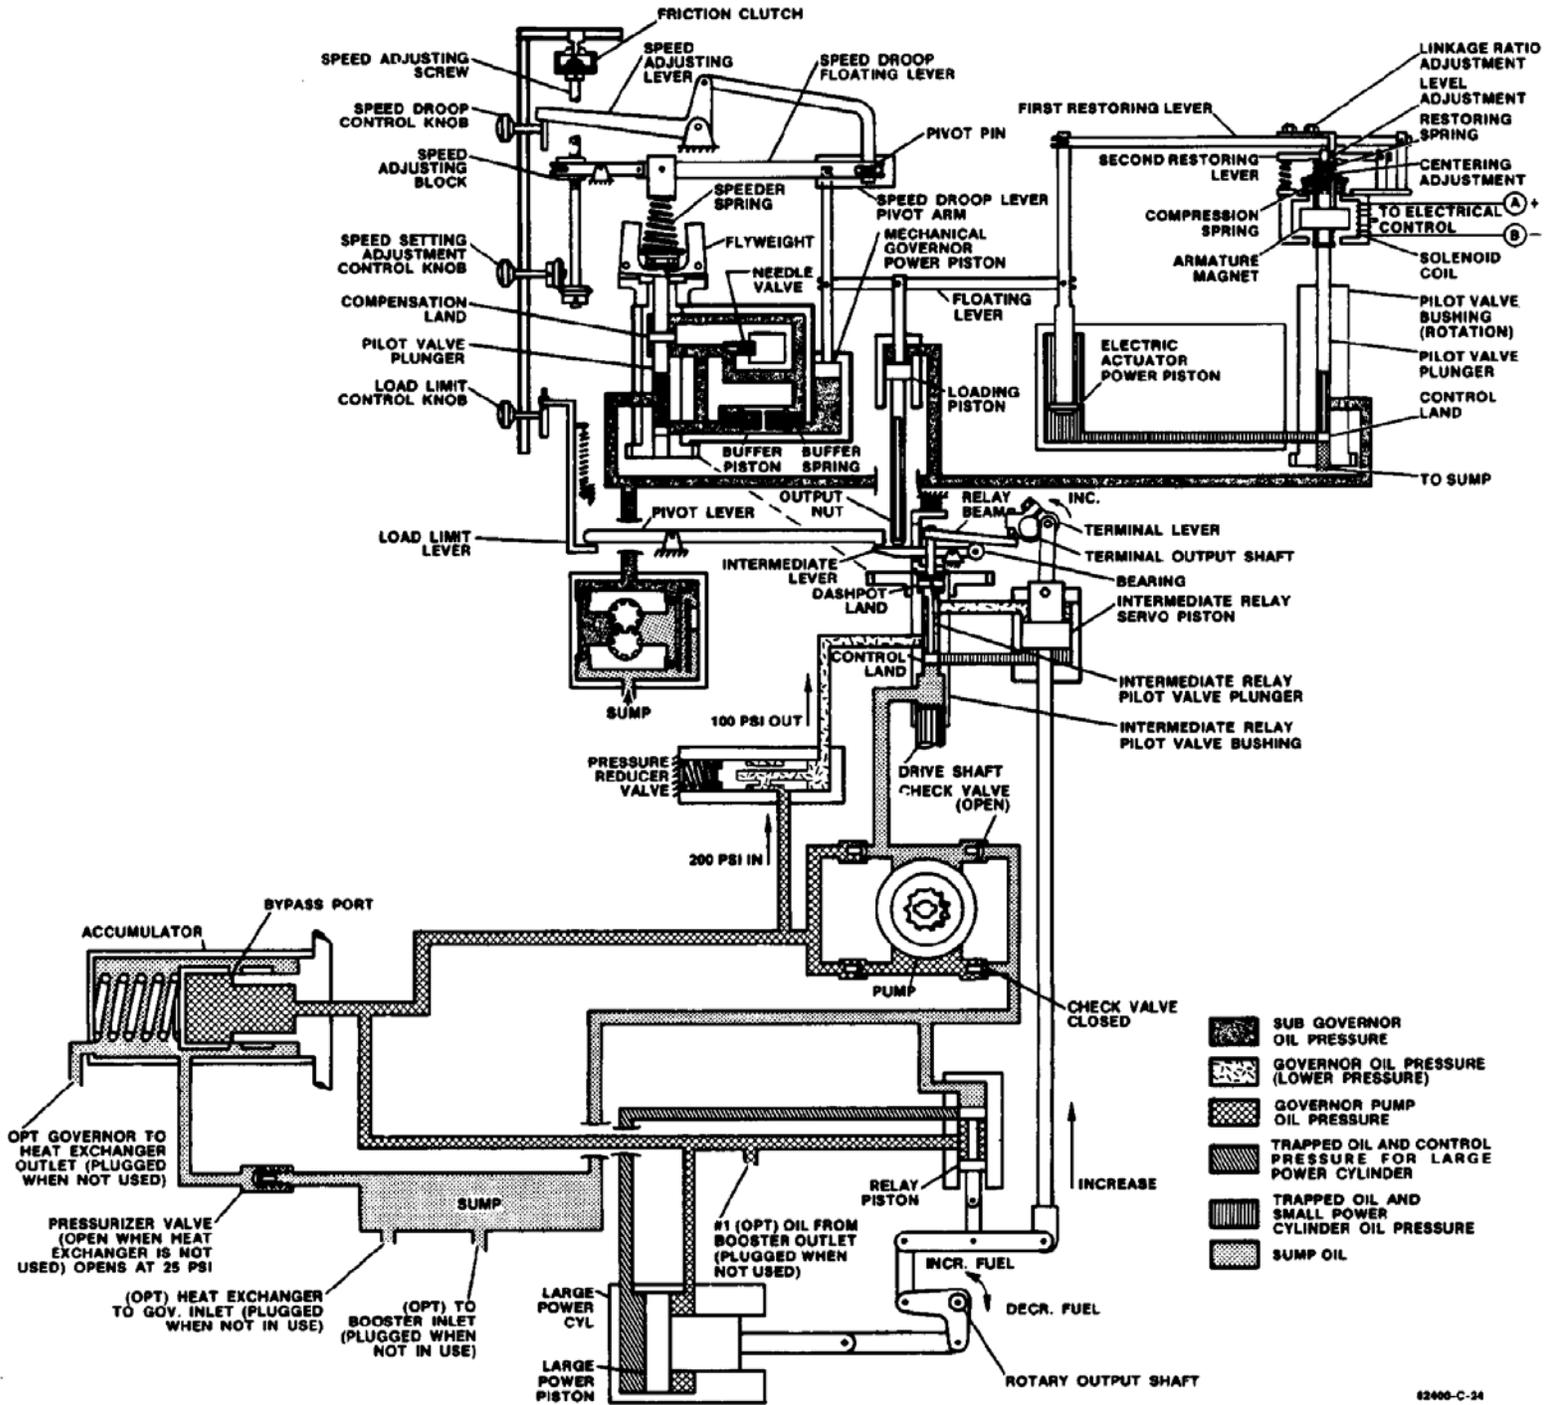

Figure 4-1. Schematic of the EGB-200 Proportional Governor/Actuator
The EGB-200P/-300P governor/actuator (see Figure 4-1) has two distinct controls in the actuating section:(1) an electric actuator and (2) a mechanical governor section. A hydraulic amplifier in the intermediate section amplifies the product of either of the control sections, and the EGB-200P/-300P then uses this amplified product to control the fuel rack of the engine or turbine.
The EGB-200P/-300P governor/actuator contains two separate hydraulic circuits. Each circuit utilizes the oil of a common sump. The accumulator oil pump (see Figure 4-1) provides pressure oil required by the amplifier section. The actuator drive shaft, driven at a speed proportionate to engine speed, rotates the pump drive gear and idler gear. Pressure oil forces the accumulator piston to the left, opposing the force of the accumulator spring. When the piston moves up sufficiently, it uncovers a bypass hole through which excess oil is returned to sump. The accumulator provides a reservoir of pressure oil and also a relief valve to limit maximum pressure in the hydraulic circuit.
During the normal mode of operation of the actuator, the electric actuator (see Figure 4-1) will be controlling and the mechanical governor power piston will be at the top of its stroke.
As the electric actuator power piston moves down, it lowers the left end of the first restoring lever. The clamping plate, attached to the first restoring lever, pushes down on the second restoring lever. (The restoring levers and spring are not identified in Figure 4-1 but are shown connecting the electric actuator power piston to the electrical solenoid at the upper right of the illustration). The loading on the restoring spring is thereby increased and lowers the pilot valve plunger. The loading piston and electric actuator servo piston move down until the increase in restoring spring force is sufficient to offset the increased force resulting from the decrease in the electric signal. When the pilot valve plunger is pushed back to its centered position, movement of the power piston, loading piston, and terminal shaft stop.
The mechanical governor (see Figure 4-1) controls the prime mover during starting and also functions as a backup governor prevent runaway should the electric control unit fail and call for maximum fuel or steam. The mechanical control must be able to increase the speed above the electrical control speed or the unit will call for maximum fuel in an attempt to increase the speed to the mechanical speed setting. The mechanical governor pilot valve plunger controls the flow of oil to its power piston. If the plunger is centered, no oil flows through the pilot valve, and the servo piston is stationary. The greater of two opposing forces moves the pilot valve plunger: The speeder spring force tends to push it down; the centrifugal force developed by the rotating flyweights is translated into an upward force which attempts to raise the plunger. With the pilot valve centered, there is only one speed at which the centrifugal force of the flyweights is equal and opposite to the speeder spring force.